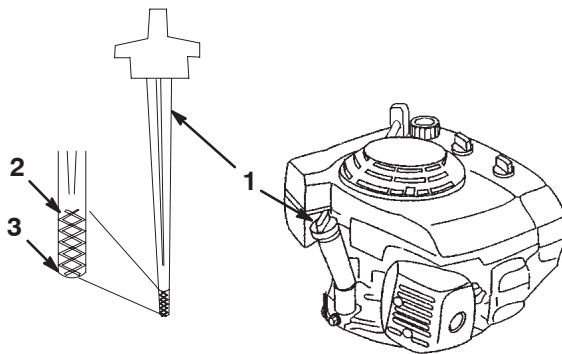

Figure 6
Before each use, ensure that the oil level is between the lower limit and upper limit marks on the dipstick (Fig. 6).
2. Clean around the dipstick (Fig. 6).
6. Read the oil level on the dipstick (Fig. 6).
7. If the oil level reading is below the lower limit mark on the dipstick, remove the dipstick and **slowly** pour only enough oil into the filler hole to raise the oil level to the upper limit mark on the dipstick (Fig. 6).